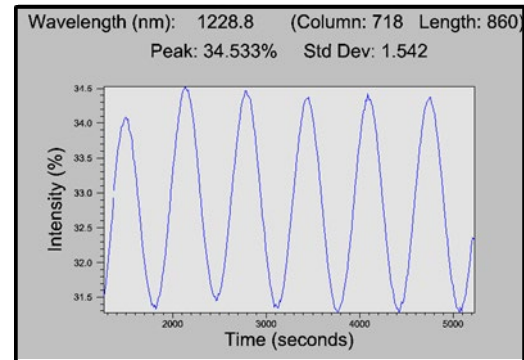

Figure 4: Subset of Figure 2 data, allowing growth rate analysis of the GaAs deposition layer.
After zooming in on an individual process, such as shown in Figure 4, one can determine that layer's growth rate by using BandiT's Pyrometric Growth Rate analysis. This analysis performs a frequency analysis on the oscillations and extracts the resultant deposition rate using the equation above. Figure 5 shows the final output, displaying frequency (both peak and weighted) found via Fourier transform power spectrum, calculated growth rate (G), and inputted index of refraction (η). This technique gives absolute growth rate, typically accurate to within 1%.